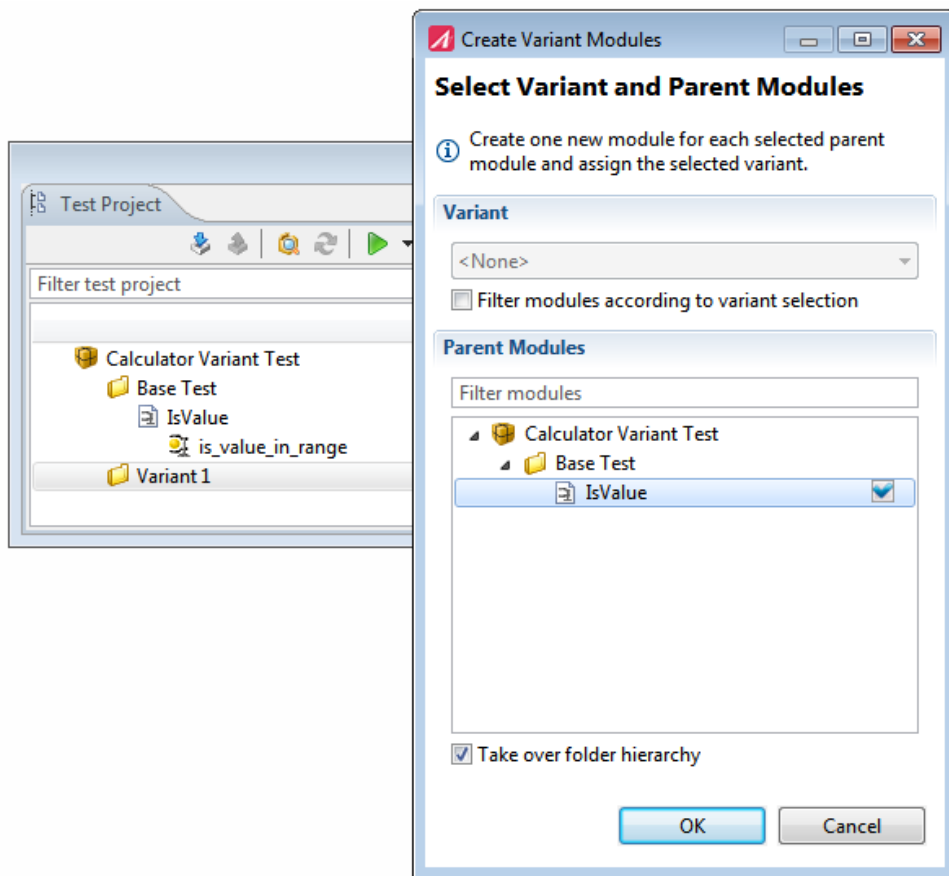

Figure 6.22: Selecting the parent module of the variant
- Choose the parent module and click on “OK” (see figure 6.22).